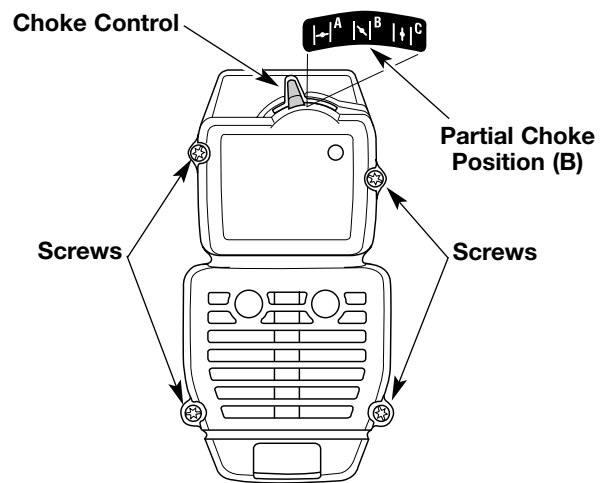

Figure 14
1. Place the choke control in the PARTIAL choke position (B).
**NOTE:** The choke control must be in the PARTIAL choke position (B) to remove the air filter/muffler cover. See Figure 14.
2. Remove the four (4) screws securing the air filter/muffler cover. See Figure 14. Use a flat blade or # T20 Torx bit screwdriver.
**NOTE:** The choke control must be in the PARTIAL choke position (B) to install the air filter/muffler cover. See Figure 14.
- Insert the four (4) screws into the holes in the air filter/muffler cover and tighten. See Figure 14. Use a flat blade or # T20 Torx bit screwdriver. Do not over tighten. Do not force.